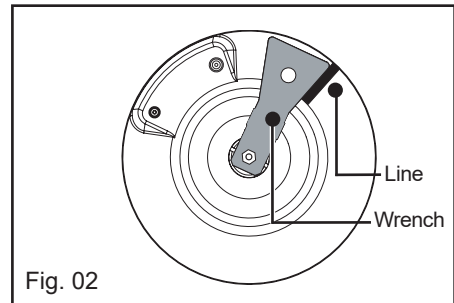

Fig. 02
your hob, and to ensure there are no leaks between the unit and the work surface, make sure that you use the sealant strip provided (Fig. 02).
- If you wish, you can immobilise the hob using the four mounting brackets delivered with a screw (Fig. 02) to attach them to the four corners of the housing. **You must use the holes provided for this purpose, according to the diagram above (Fig. 01).**
- Use a **reinforced rubber hose** with **screw-on mechanical connectors** (compliant with standard NF D 36-1 03) with a 10-year guarantee (Fig. 02).
- **Connection with a reinforced rubber hose with screw-on mechanical connectors** (compliant with the NF D 36-112 standard) whose service life is 10 years (Fig. 02).
- Draw a line on the burner plate using a pencil, as shown in Fig. 02.
- Do not use cookware with a concave or convex bottom (Fig. 02).